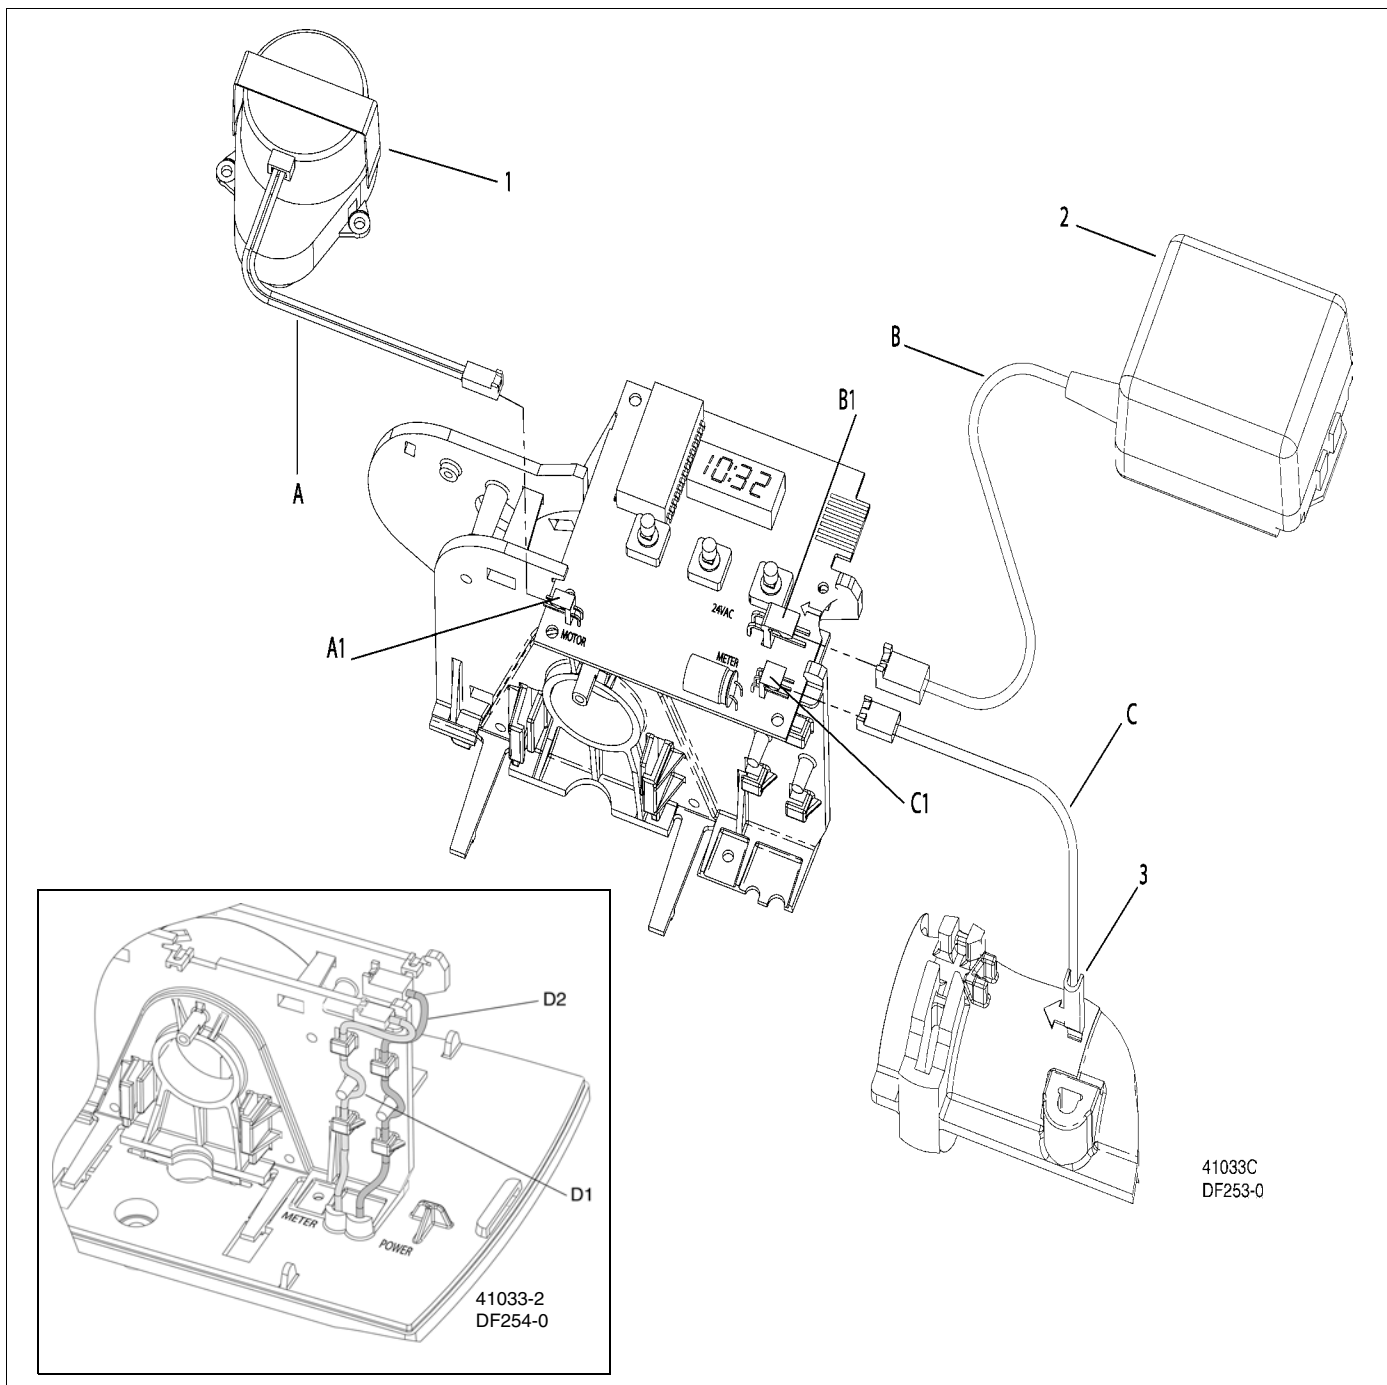

Figure 29: Connecting the Circuit Board
1. Connect the motor wires (A) to the motor connector (A1) on board.
2. Connect the transformer cable (B) to the transformer connector (B1) on board.
3. Connect the meter cable (C) to the meter cable connector (C1) on board.
5. Thread meter cable (D1) and power wire (D2) along path shown in Figure 29.